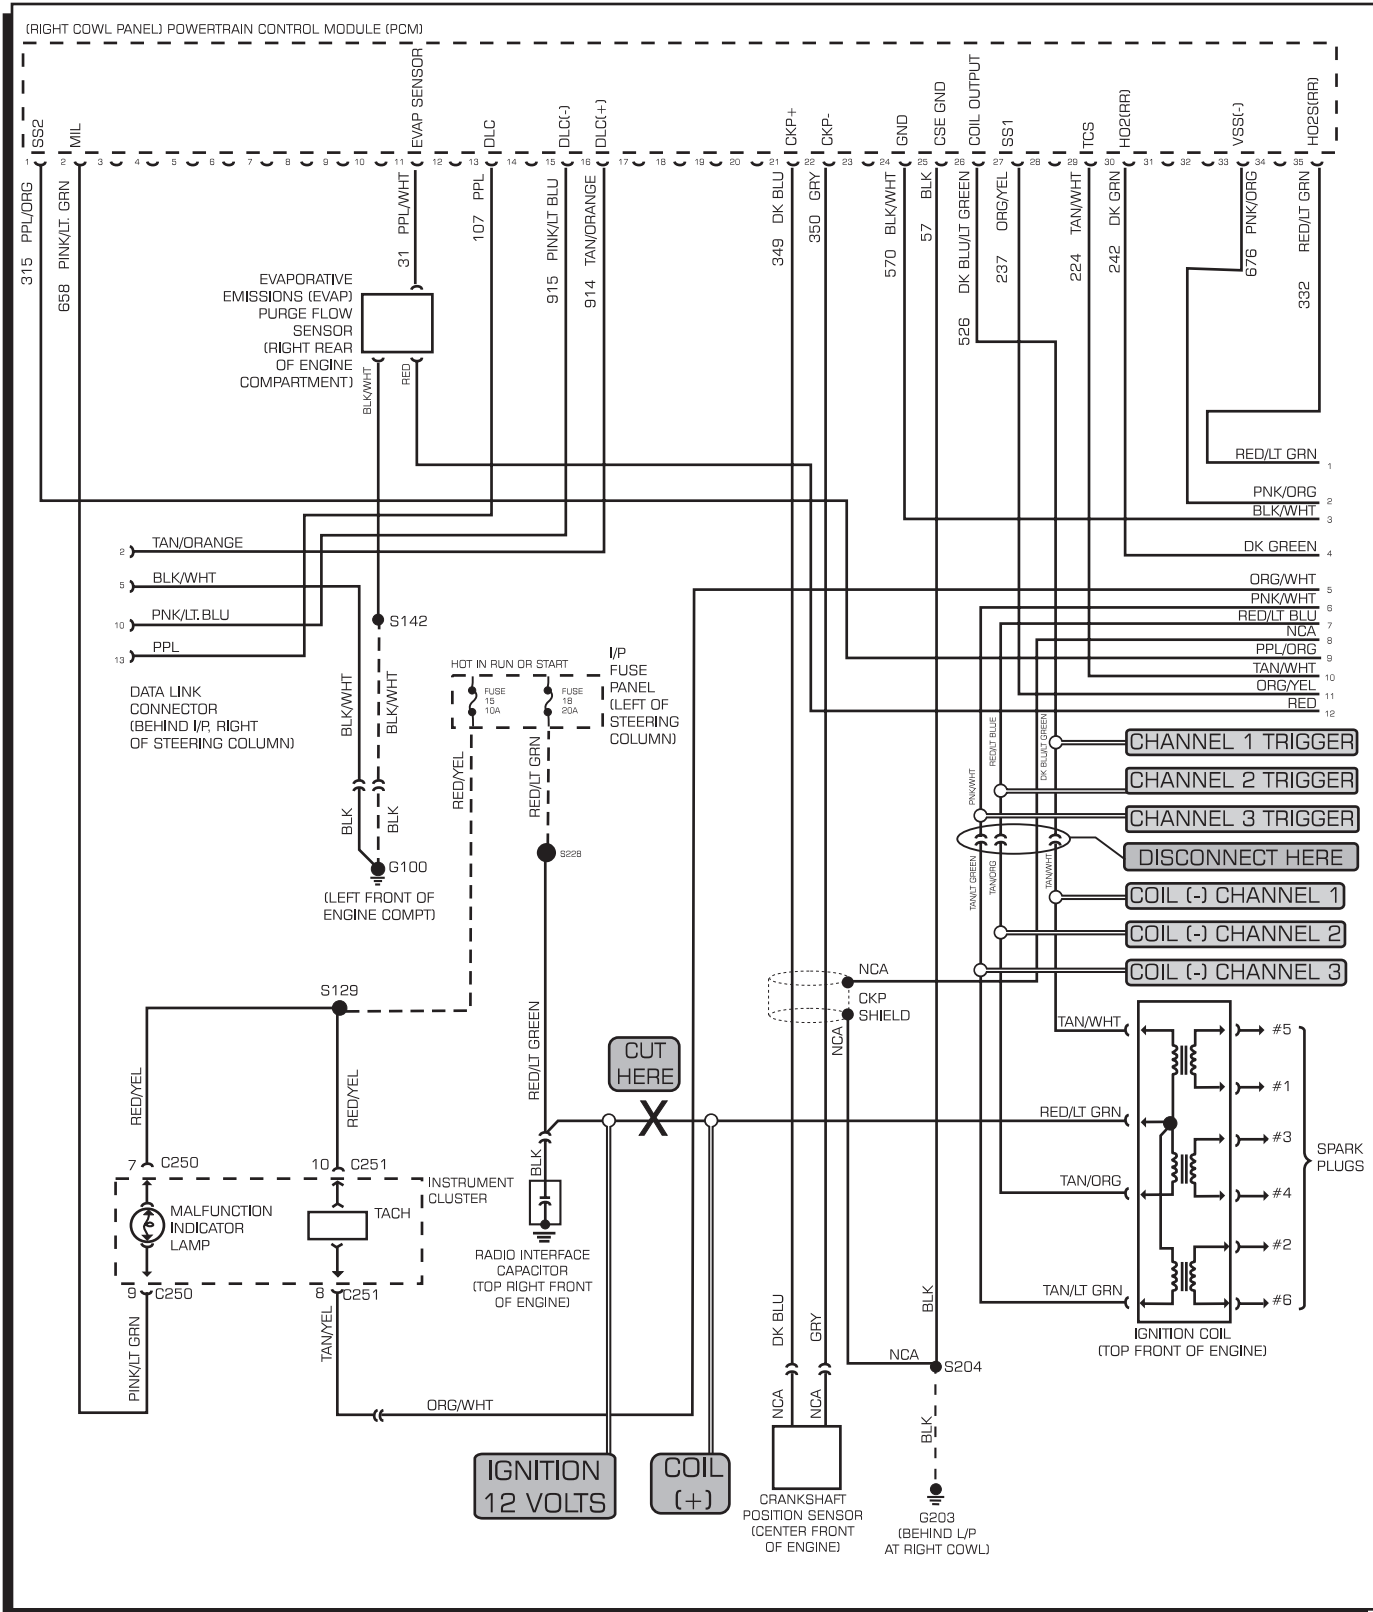

Figure 3 General Wiring Before Installation of the MSD. 6-Cylinder with Coil Packs
- D. The remaining wires on the harness are the trigger wires. On a 4-cylinder you should have two, on a 6-cylinder three, and on a 8-cylinder there should be four. Each of these wires needs to be connected to one of the trigger input wires of the DIS Ignition. Using Figure 3 and 4 as a guide, connect the DIS trigger input and coil (-) wires as follows.